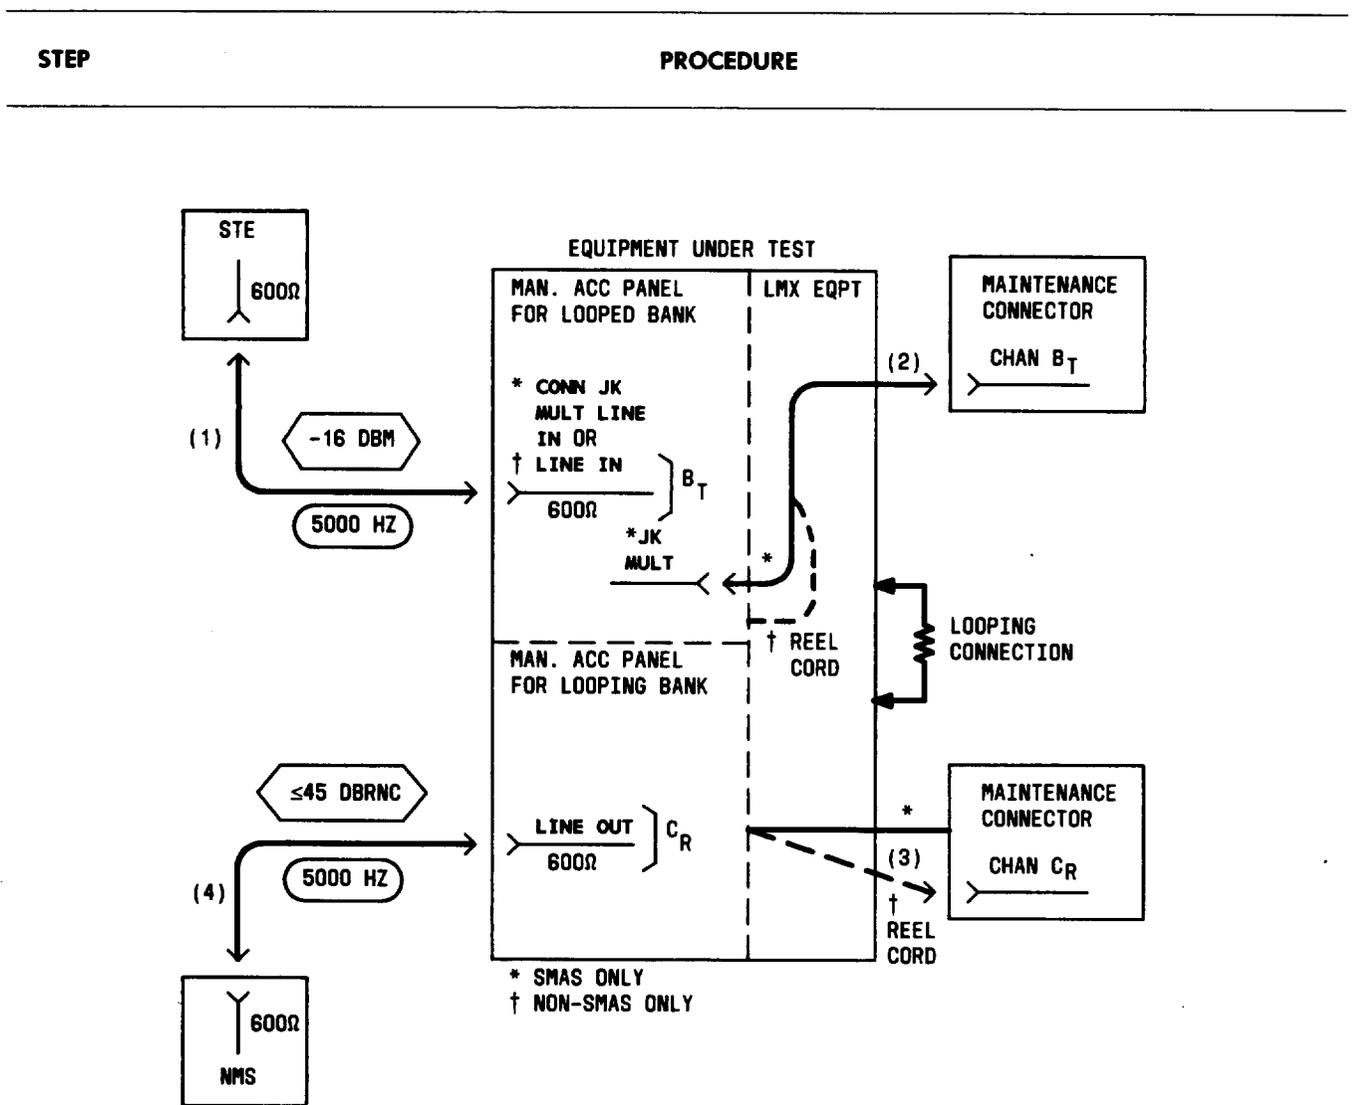

Fig. 17—Patching Diagram—Crosstalk Test—Equal-Level Looping—Upper Adjacent Channel (5000 Hz)
- 34a* Connect the JK MULT connector (on the 22AR or AT MAP) to the CHAN BANK connector (on the maintenance connector) for the *looped* channel designated B_r for Test A in Table H [patch (2), Fig. 17].
- 34b† On the adjacent non-SMAS J98626() frame, connect the retractable cord (on the 22AU MAP) to the CHAN BANK connector (on the maintenance connector on the frame under test) for the **looped** channel designated B_T for Test A in Table H [patch (2), Fig. 17].
- 35b† Connect the retractable cord (on the 22AU MAP) to the CHAN BANK connector for the **looping**-channel position designated C_R for Test A in Table H [patch (3), Fig. 17].
37* Connect the NMS to the LINE OUT jack [patch (4), Fig. 17].
41	Remove patch (2), Fig. 17 [and patch (3), if used] from the maintenance connector(s).
45	Remove patch (1), Fig. 17.
47†	Remove patch (4), Fig. 17.